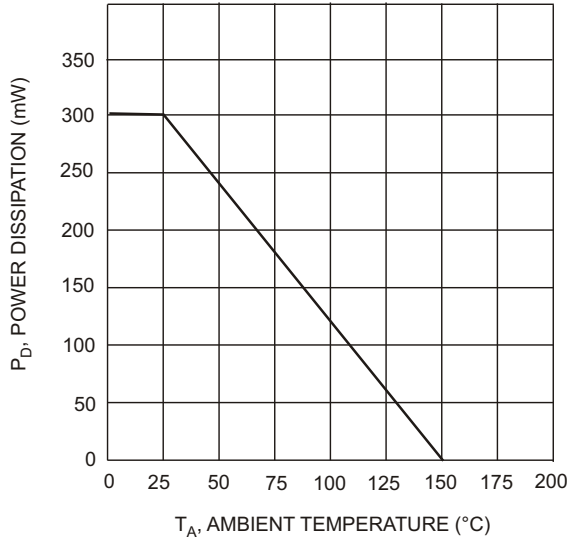

Fig. 1, Max Power Dissipation vs Ambient Temperature
- When operated under collector-emitter saturation conditions within the safe operating area defined by the thermal resistance rating (R_{JA}), power dissipation rating (P_d) and power derating curve (figure 1).